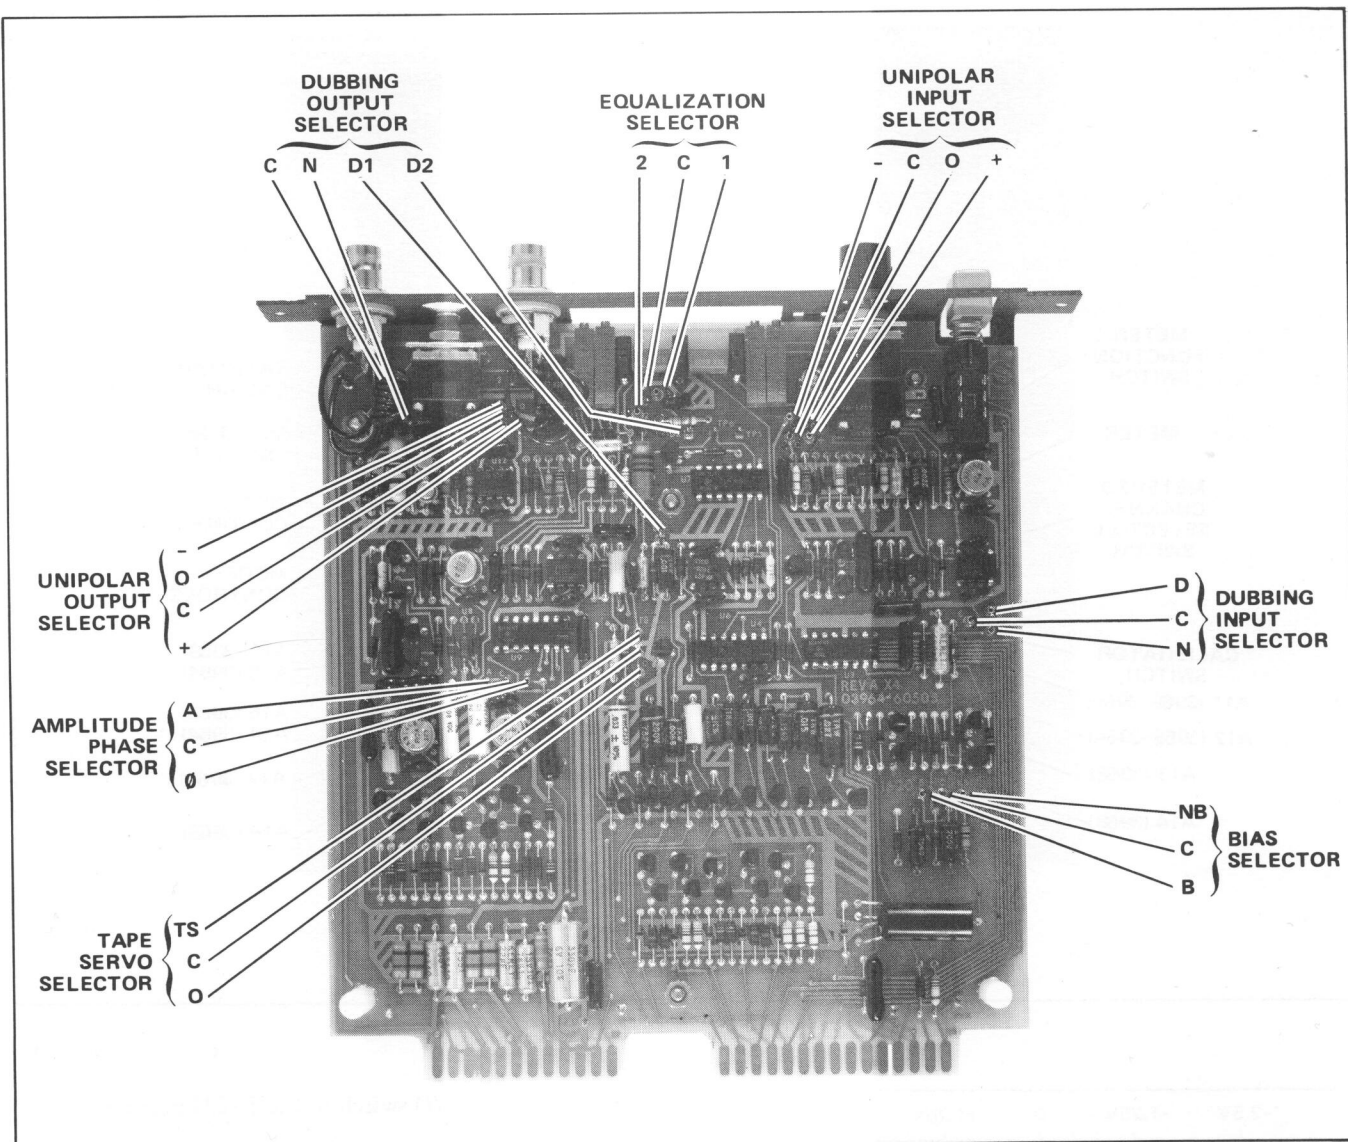

Figure 3-5. FM PCA Jumper Identification
- d. Check the unipolar input and output jumpers (see Figure 3-5).